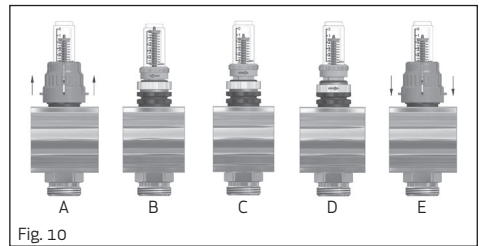

Fig. 10
- a. Remove the orange cover as in Fig. 10-A.
- b. Set the FLUXER in closure position by turning the upper lock ring in the direction indicated by the arrow in Fig. 10-B. In this position, the gauge will point a null flow rate value.
- c. Open the FLUXER by turning the lock ring in the opposite direction (Fig. 10-C), and check through the spyglass that the desired flow rate value is achieved.
- d. Screw the lower lock ring in the direction indicated by the arrow in Fig. 10-D, until it stops.
- e. Put back the orange cover (Fig. 10-E).